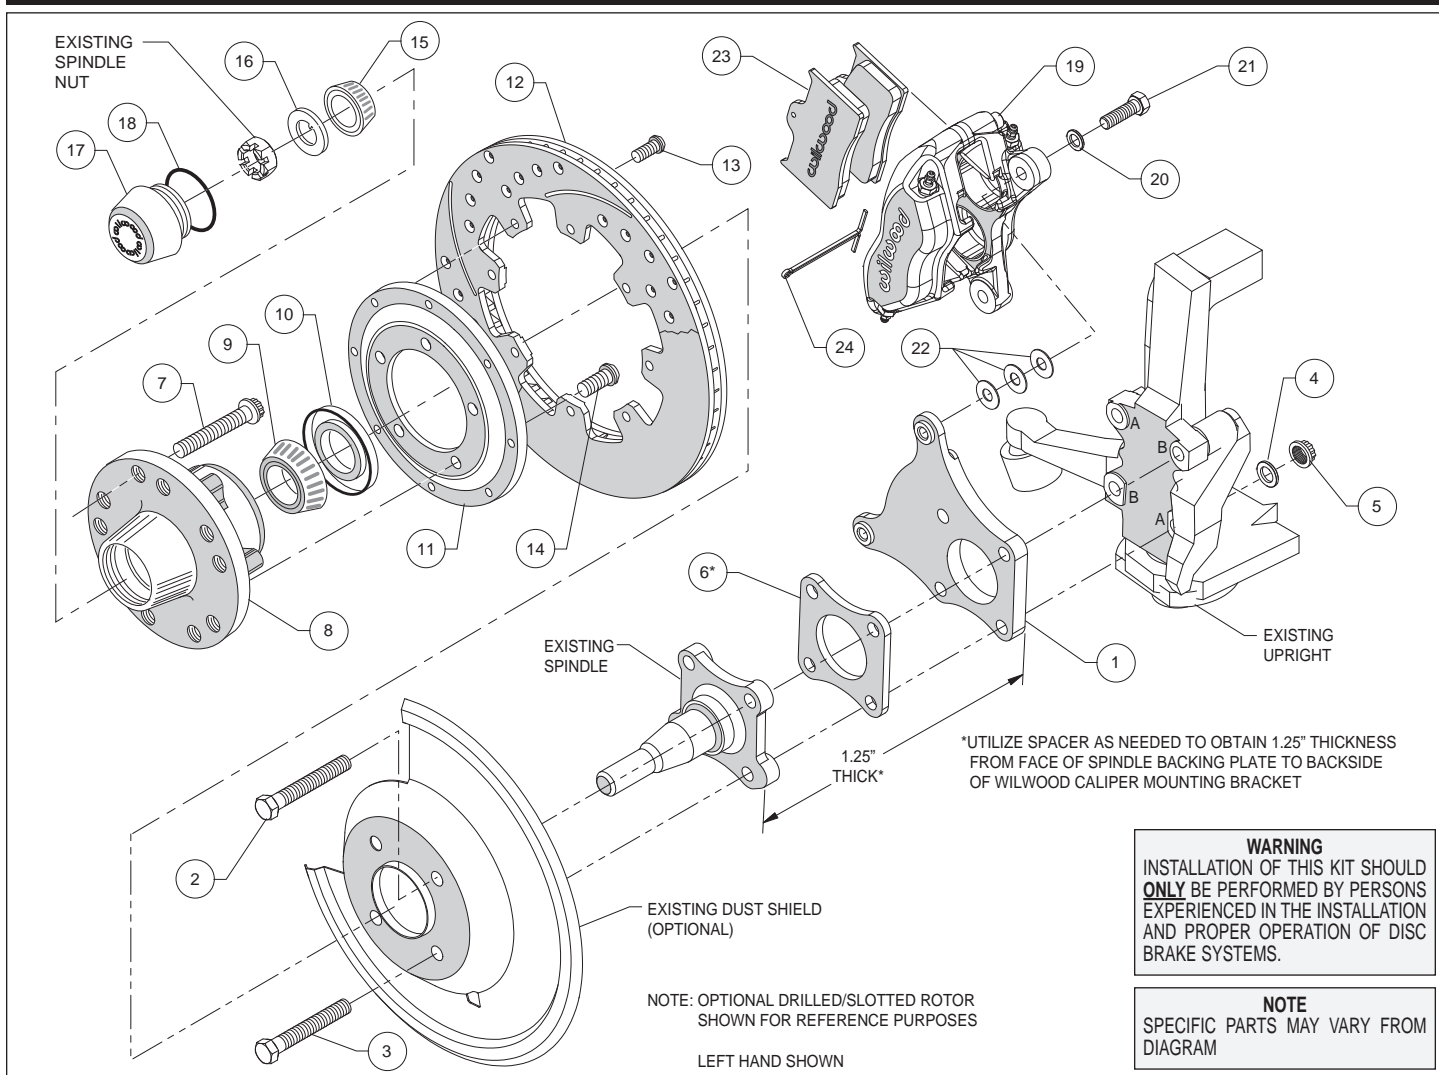
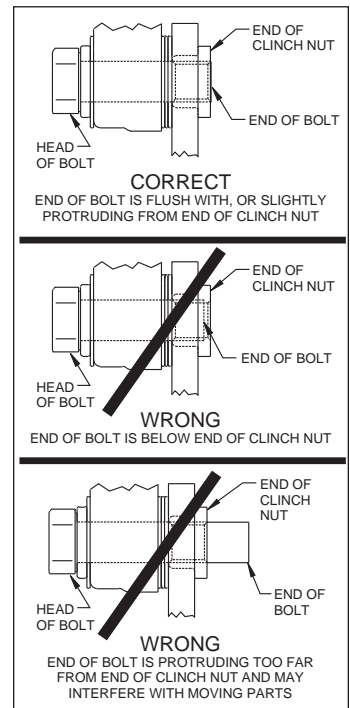

Figure 1. Typical Installation Configuration
Figure 3. Clinch Nut Engagement Diagram
**Assembly Instructions** (numbers in parenthesis refer to the parts list, on the preceding page and Figure 1): **CAUTION:** *All mounting bolts must fully engage clinch nuts.* Be sure to check that all bolts are either flush or protruding through flanged side of clinch nut after shimming, Figure 3.
- Align caliper mounting bracket (1) with the corresponding holes, between the upright and the spindle. Attach using bolts (2 and 3), washers (4), and locknuts (5) as shown in Figure 1 and Photo 1. Bolt (2) goes into holes on the upright designed with a "B" and bolt (3) goes into the "A" marked holes, Figure 1. Measure the thickness of the spindle and mounting bracket, Figure 1. If approximately 1.00", place spacer (6) between the spindle and mounting bracket to achieve the correct thickness. Temporarily tighten the mounting bolts. Ensure that the flanged heads of the clinch nuts in the bracket are facing outboard, Photo 1. **NOTE:** *The bracket must fit squarely against the mounting bosses on the upright.* Inspect for interference from casting irregularities, machining ridges, burrs, etc. Remove bolts one at a time, apply red *Loctite*® 271 to threads and torque to 47 ft-lbs.
- Install wheel studs (7) into the hub (8), Photo 2. Torque to 77 ft-lb. **NOTE:** *There are two five lug patterns in the hub (5 x 4.50 and 5 x 4.75).* Ensure the correct hub stud pattern is being used to fit the wheel application.
- Pack the large inner bearing cone (9) with high temperature disc brake bearing grease (available from your local auto parts store) and install into the backside of the hub (8), Photo 3.
- Install the grease seal (10) by pressing into the backside of the hub (8), flush with the end of the hub, Photo 3.
- Orient the rotor (12) and the rotor adapter (11) as shown in Figure 1 and Photo 4. Attach the rotor to the adapter using bolts (13). Using an alternating sequence, apply red *Loctite*® 271 to the threads, and torque to 25 ft-lb.
- Mount the adapter/rotor assembly (11/12) to the hub (8) using bolts (14), as shown in Figure 1 and Photo 5. Using an alternating sequence, apply red *Loctite*® 271 to the threads, and torque to 55 ft-lb.
- Screw dust cap (17) into hub (8), Photo 7. Friction created by the o-ring (18) on the dust cap keeps it from unscrewing.
**NOTE:** The O.D. of the existing OEM spindle washer may be larger than the I.D. of the dust cap not allowing it to seat against the hub face. Therefore, use the spindle washer (16) supplied with the kit instead of the OEM washer.
- NOTE:** Please reference the caution statement at the beginning of the assembly instructions. Mount the caliper (19) onto the caliper mounting bracket (1) using bolts (21) and washers (20), as shown in Figure 1. Initially place three .035" thick shims (22) on each bolt between the caliper and the bracket, Photo 8. Temporarily tighten the mounting bolts and view the rotor (12) through the top opening of the caliper. The rotor should be centered in the caliper, Photo 9. If not, adjust by adding or subtracting shims between the bracket and the caliper. Always use the same amount of shims on each of the two mounting bolts. **NOTE:** The end of each bolt must be flush with or slightly protruding from the head of the clinch nut, as shown in Figure 3. If necessary place spare shims between washer (20) and caliper mounting ear to achieve the proper clinch nut engagement. Once the caliper alignment and clinch nut engagement are correct, remove the bolts one at a time, apply red *Loctite*® 271 to bolt threads, and torque to 40 ft-lb.